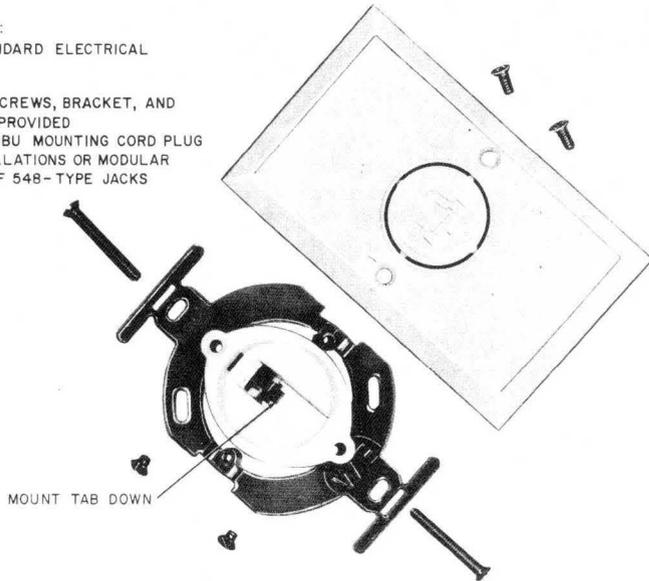

Fig. 2—625B Connecting Block (With Mounting Hardware)¶
- Provide top/bottom orientation to modular connectors (Fig. 2, 3, and paragraph 3.11) and Warning to paragraph 3.01
- Block, Connecting, 625B (Fig. 2)
2.03 The **625B** connecting block (Fig. 2) includes the 625F connecting block, 65A faceplate package, and two mounting screws. It is intended for new installations or modular replacement of 548A jacks or 47F connecting blocks.
(b) **Flush-type:** Jack-opening oriented with spring contacts up and tab down (Fig. 2, 3, and 7).